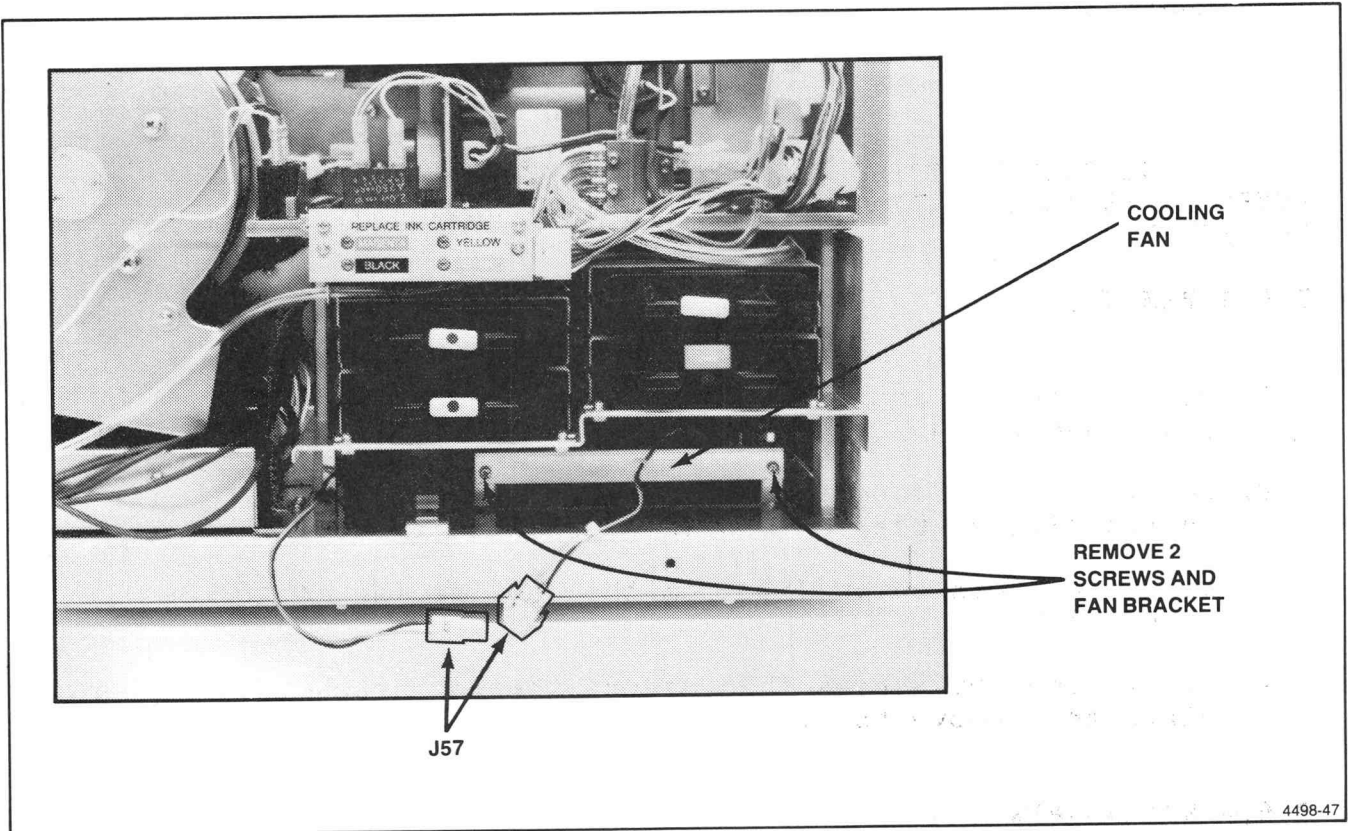

Figure 7-8. Cooling Fan Removal.
3. Disconnect connector J57 from the cooling fan motor. See Figure 7-8.